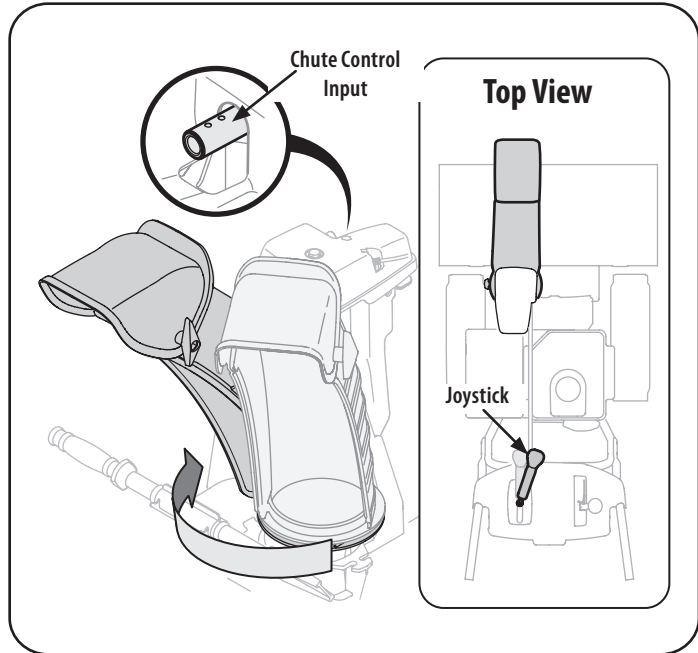
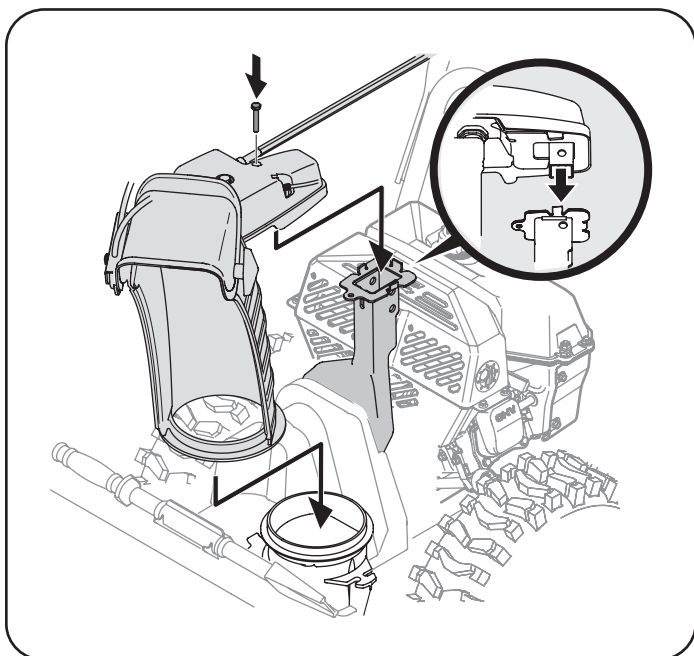

Figure 6
Figure 5
4. Place chute onto chute base and ensure chute control rod is positioned under handle panel. Install hex bolt previously removed but do not secure with wing nut at this time. See Figure 5.
5. Squeeze the trigger on the handle panel joystick and rotate the chute by hand to face forward. The holes in the chute control input will be facing up. See Figure 6.
NOTE: The joystick will be angled slightly to the right. See Figure 5 & Figure 6.